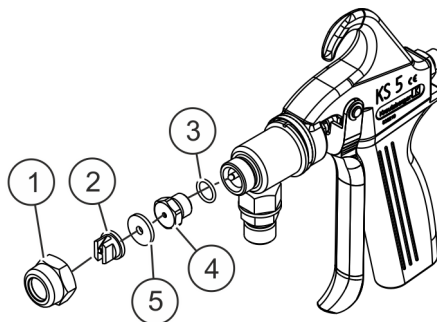

Fig. 31: Replace valve seat screw and fluid nozzle
1.  Unscrew the nozzle nut (Fig. 31/1).
2.  Remove fluid nozzle (Fig. 31/2) and seal (Fig. 31/5).
3.  Unscrew complete valve seat screw (Fig. 31/4) including seal (Fig. 31/3).
4.  Remove the seal (Fig. 31/3) from the valve seat screw (Fig. 31/4).